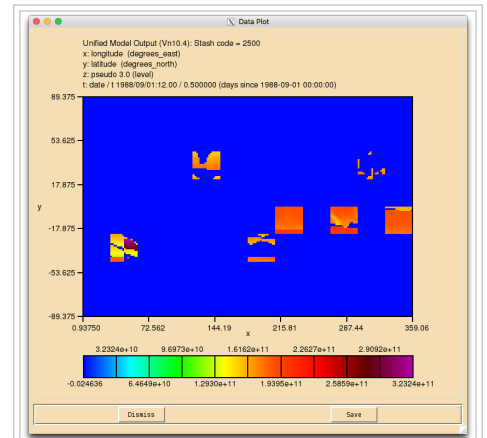

Figure 1: m01s02i500, showing the corrupt values.
It should be noted that due to problems with setting up this configuration, the s02i500 to s02i505 fields are corrupted. To prevent the run from failing you need to change the *packing* of the .pk file to **'Unpacked (0)'**. This can be done in **um** → **namelist** → **Model Input and Output** → **Model Output Streams** → **pp10**. With this done the file is created with the fields in place, but it is clear that the diagnostics are corrupted (see Figure 1).